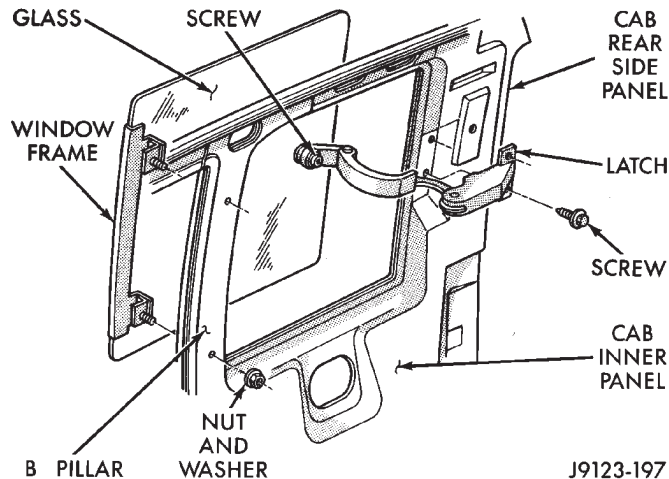

Fig. 33 Quarter Vent Window Removal/Installation
- (1) Remove the latch retaining screws from the cab rear side panel (Fig. 33).
- (2) Remove the frame/hinge retaining nuts from the B-pillar.
- (3) Remove the window glass from the cab.
- (4) If necessary, remove the latch and frame/hinge from the glass.